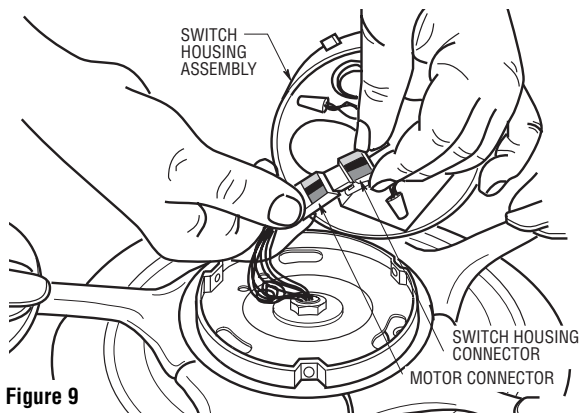

Figure 9
- 4. Engage the connector of the switch housing assembly with the motor connector (Figure 9). The two connectors are keyed and color-coded and must be mated correctly (color-to-color) before they can be engaged. Make sure the connector latch closes properly.